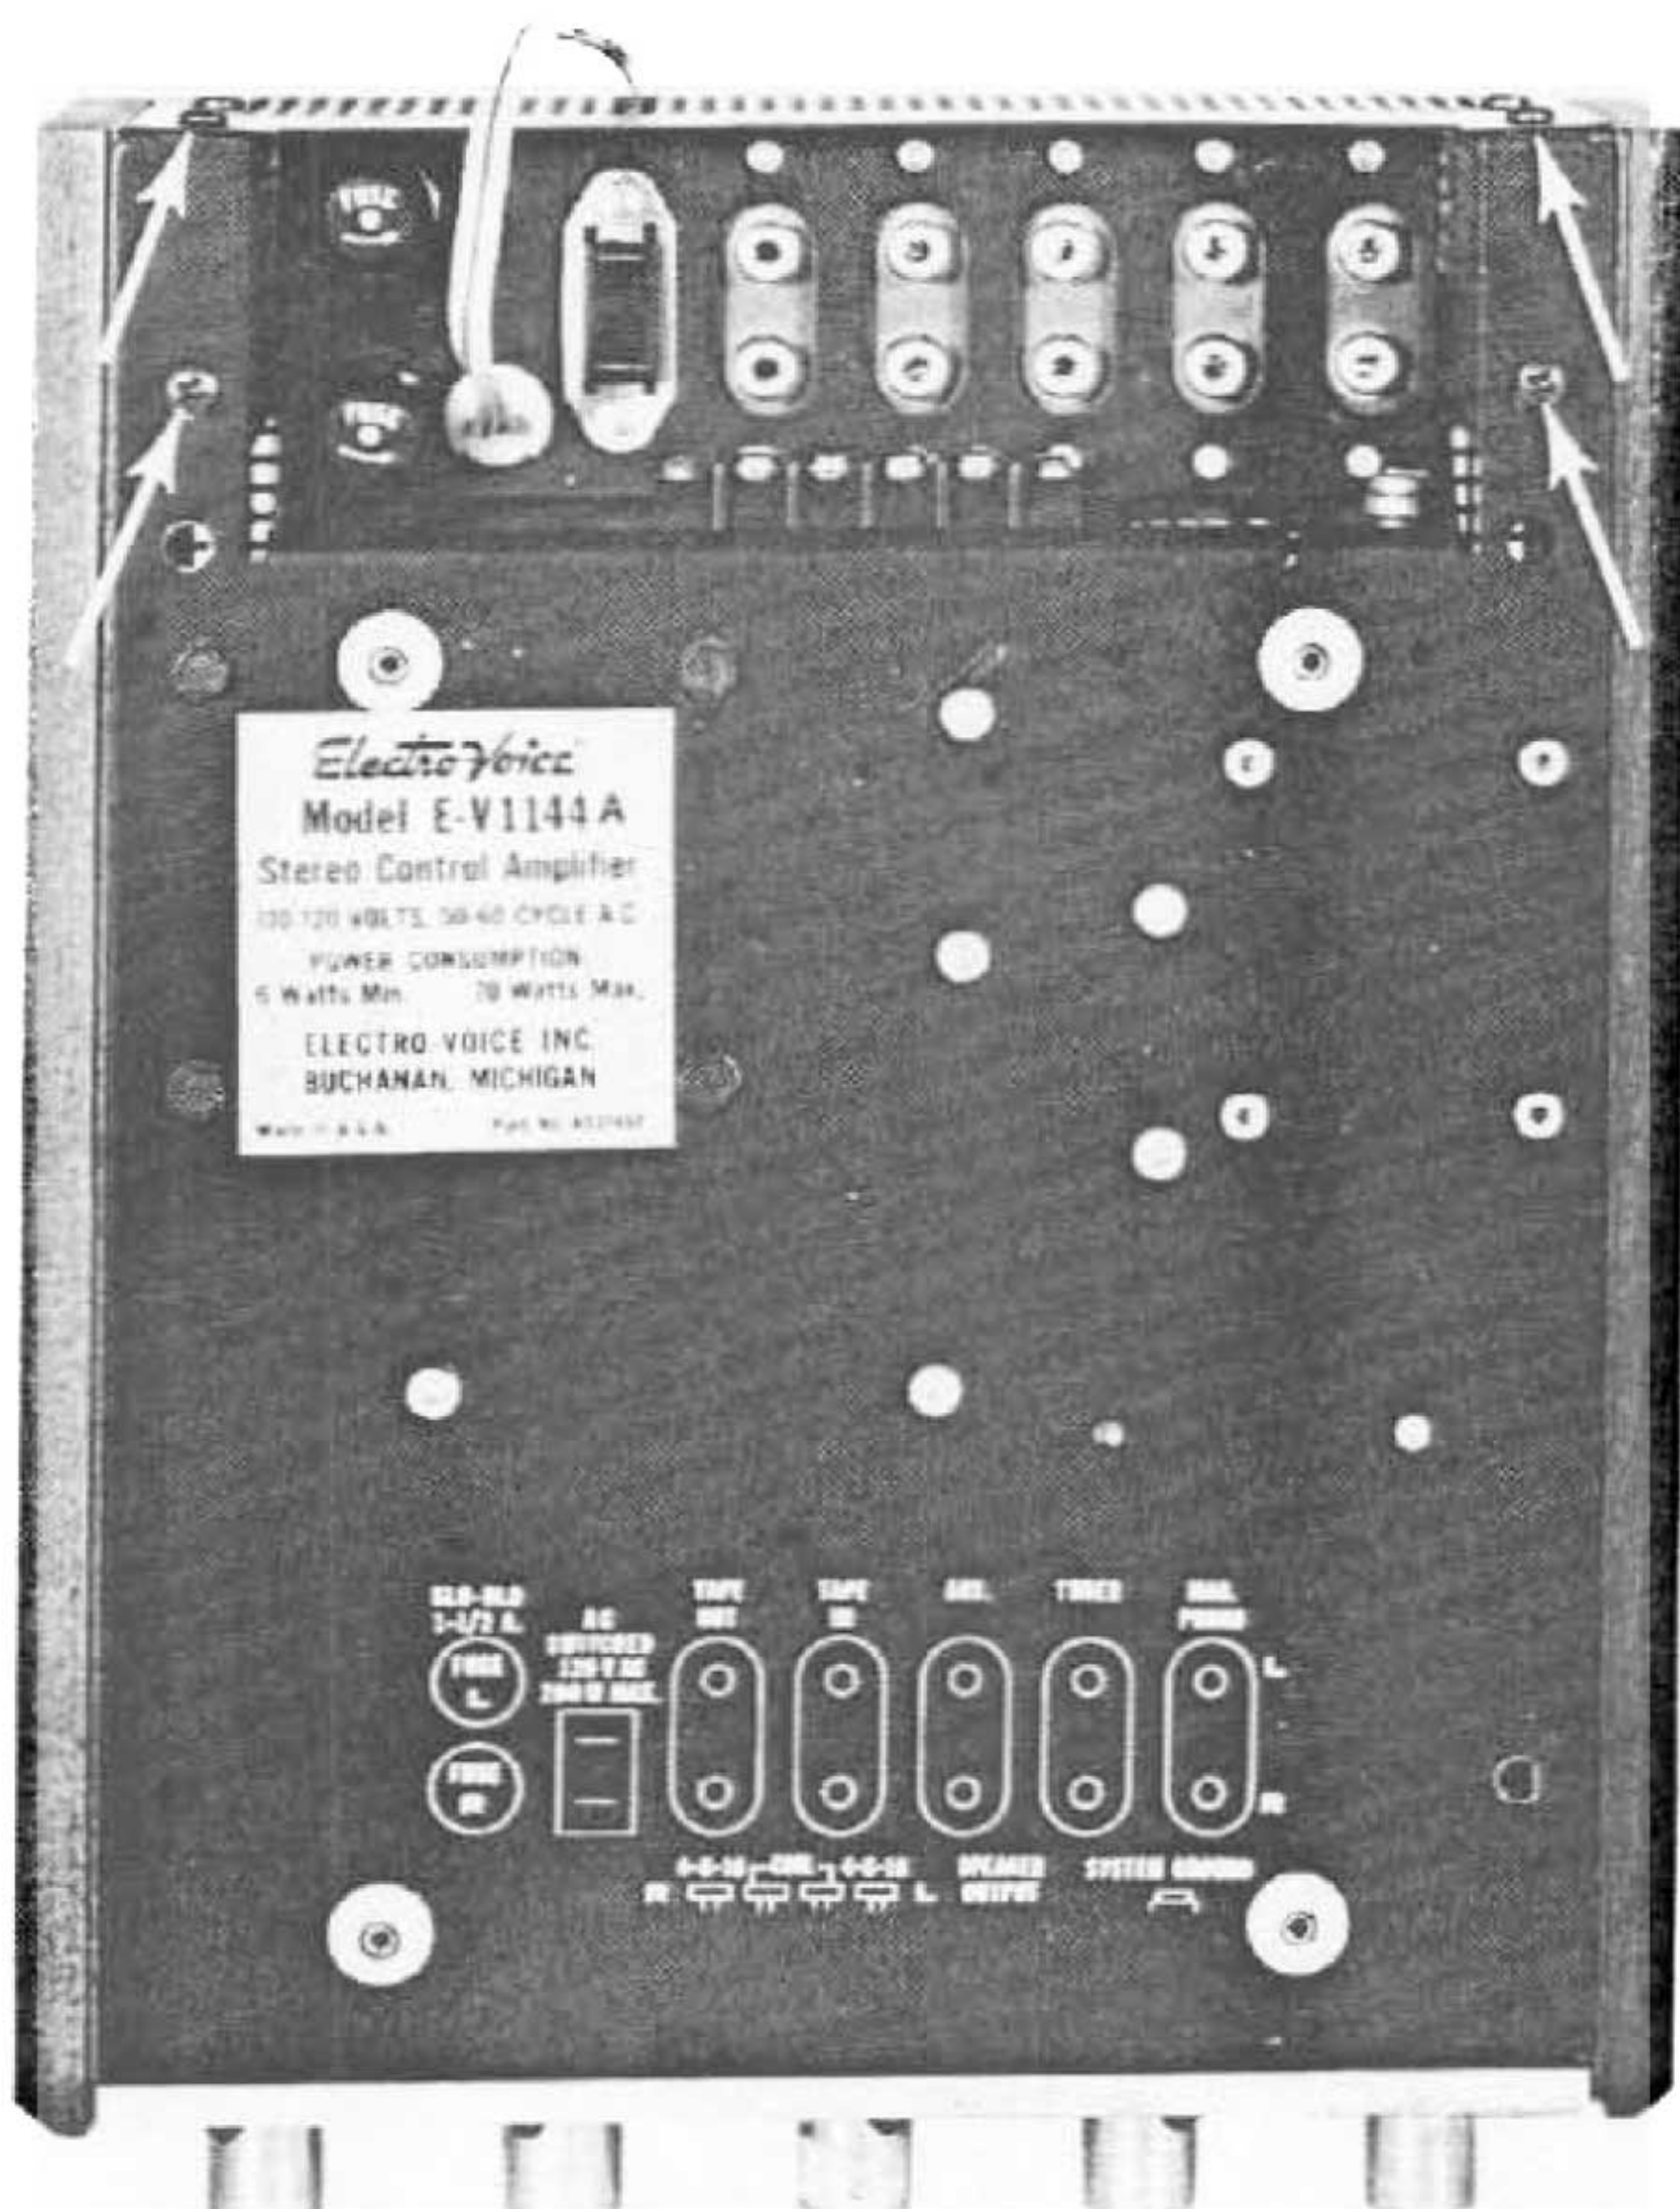

FIGURE 2
1. Remove phillips head screws in rear of cabinet. (See Figure 2 below)
3. Remove phillips screw from each panel. (See Figure 2 above)